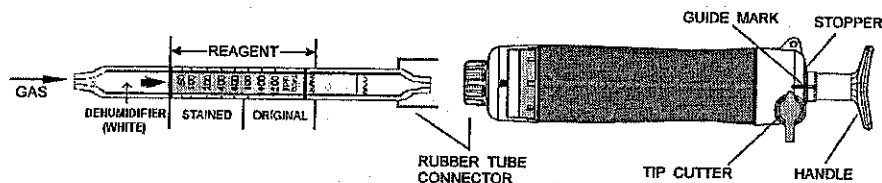

Fig.1
- ① Break both ends of the detector tube.
- ② Insert the detector tube into the aspirating pump securely as shown in Fig.1. (Arrow mark shall point to the pump.)
- ③ Align the guide marks on the shaft and stopper of the aspirating pump.
- ④ Pull the pump handle at a full stroke until it locks and wait for 1.5 minutes or until the completion of sampling is confirmed with the flow indicator of the pump (See descriptions about the flow indicator in the instruction manual of the pump).
- ⑤ On completion of sampling, read the scale at the maximum point of the stained layer.
- ⑥ When the concentrations are below the scale range, 2 pump strokes can be used to determine these lower concentrations. Then multiply the reading value by 0.4.